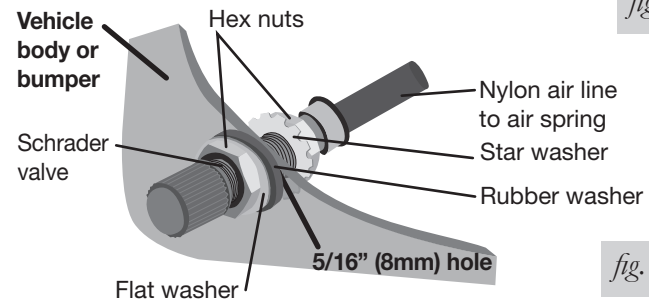

fig. 10
3. Install the Schrader valve in the chosen location (fig. 10).